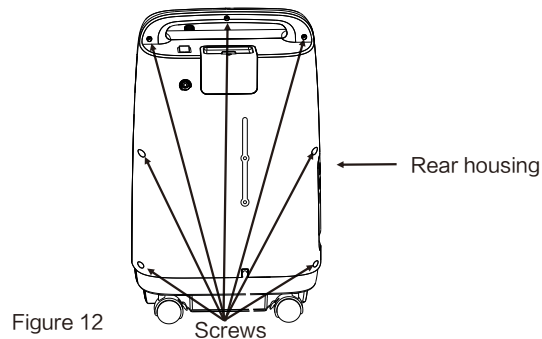

Figure 12
- Set the oxygen concentrator upright, unscrew the fixing screws which connect the front and rear housings. (Figure 12)